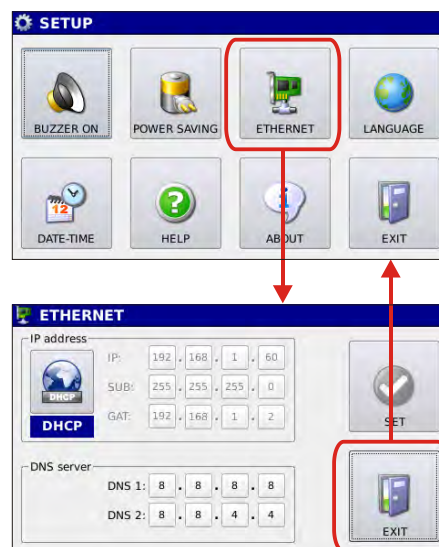

Fig. 6.7 Ethernet connection configuration menu.
6.3  **Network connection configuration.** By pressing the Ethernet key allows you to access the window for managing connection to the instrument network (Figure 6.7).